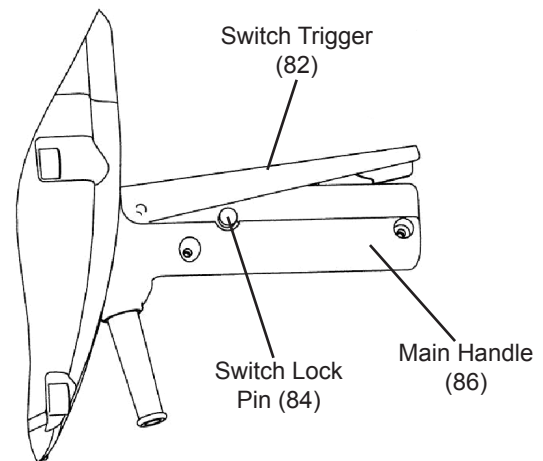

Figure 3
2. Place one hand on the Side Handle (31A) and the other hand around the Main Handle (86).
3. Press the Switch Lock Pin (84) and then push down on the Switch Trigger (82). See Figure 3, below.